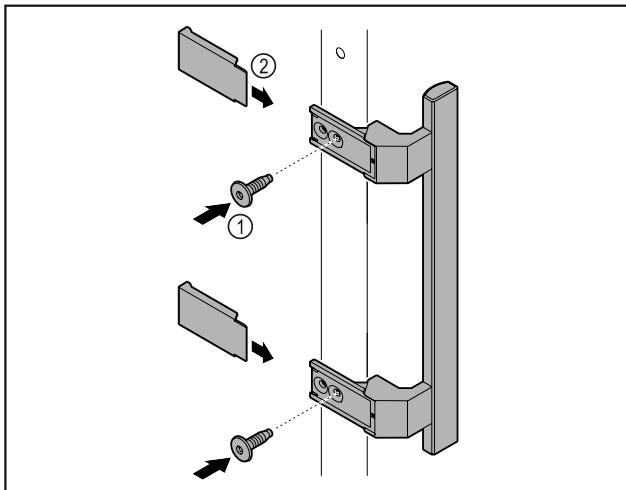

Fig. 9
- ▶ Attach handle from accessory kit to the door using the screws Fig. 9 (1) supplied.
- ▶ Put on cover Fig. 9 (2).